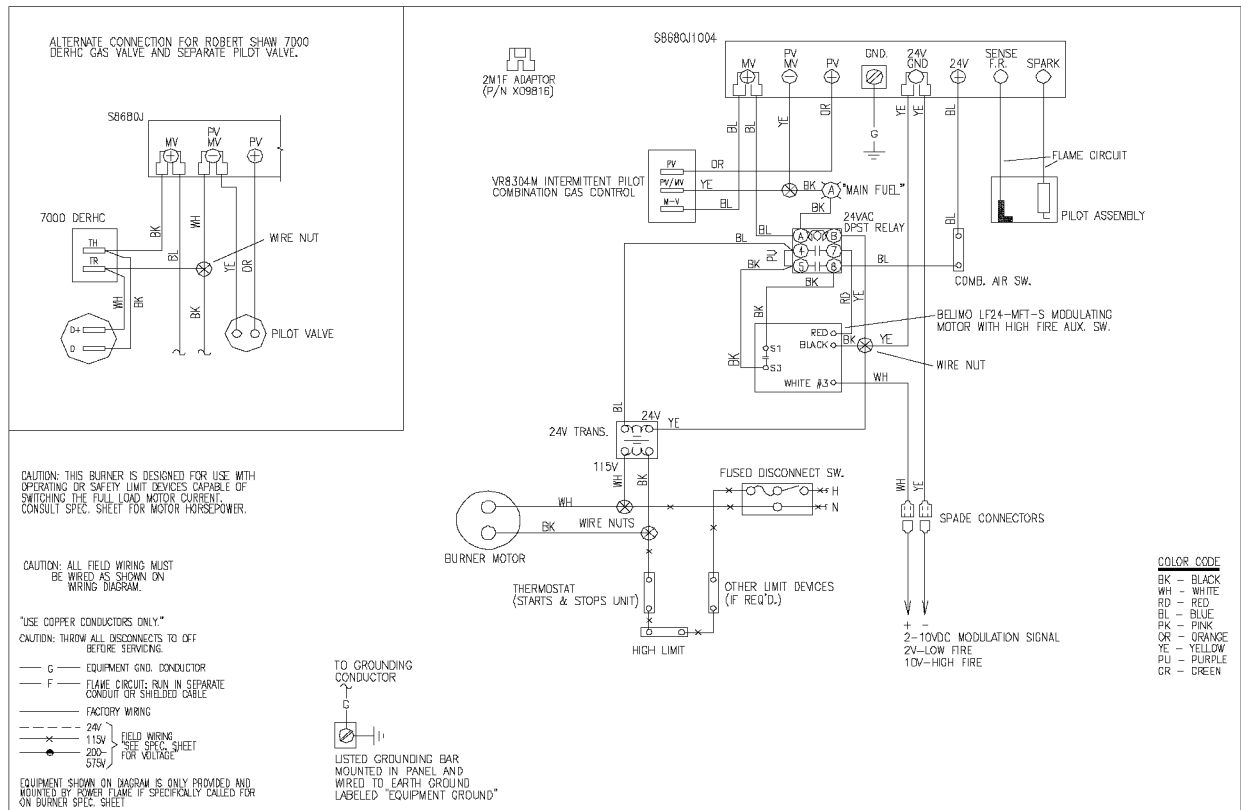

Figure 13: Typical Wiring Diagram For X4M with LF-24 Actuator
- 11.1 Refer to typical wiring diagram for X4M burner (**Figure 13**). Upon a call for heat, the blower motor starts, closing the combustion air switch. Power is supplied to the 24-vac transformer. Initially power to the actuator is held out through one set of normally open contacts on the 24-vac relay.